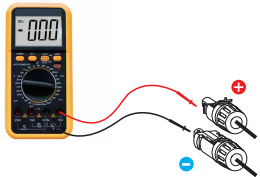
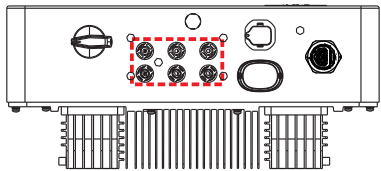

Figure 5.15 Multimeter measurement
Figure 5.16 Connect the DC Connectors to the Inverter
5. Measure PV voltage of DC input with multimeter, verify DC input cable polar (see figure 5.15), and ensure each string of PV voltage in range of inverter operation. Connect DC connector with inverter until hearing a slight clicking sound indicates connection succeed. (see figure 5.16)